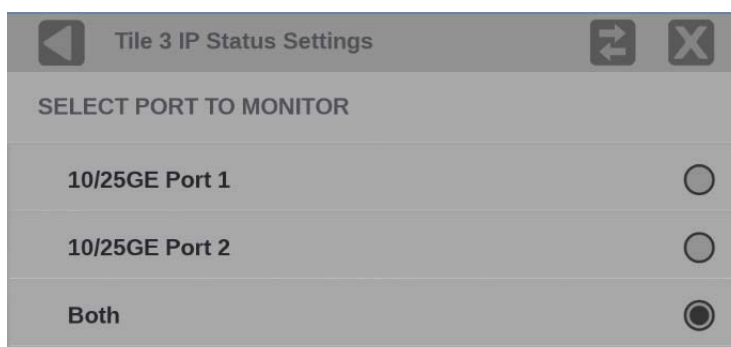

Figure 153: IP Status port settings
2. Open the IP Status settings menu by press/hold in the tile and select the ⚙ icon. (See Figure 153.)